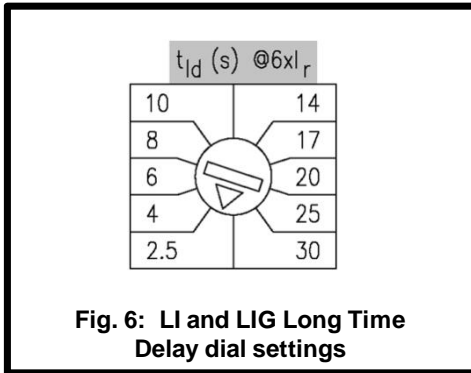
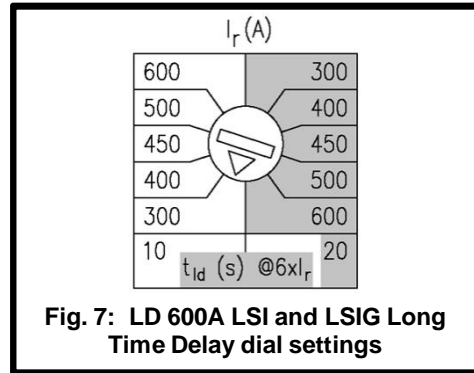

Fig. 6: LI and LIG Long Time Delay dial settings
Fig. 7: LD 600A LSI and LSIG Long Time Delay dial settings
All model types have an adjustable Long Time Delay. The Long Time Delay times are an I^2t function calibrated at 6 times the Continuous Current setting. For LI and LIG breakers (see Fig. 6), there are ten (10) Long Time Delay settings that range from 2.5 to 30 seconds. For LSI and LSIG breakers (see Fig. 7), there are two Long Time Delay settings which are selected based on the Continuous Current setting. As shown in Fig. 7, the Continuous Current settings on the left selects a Long Time Delay setting of 10 seconds and the Continuous Current settings on the right select a Long time Delay setting of 20 seconds.